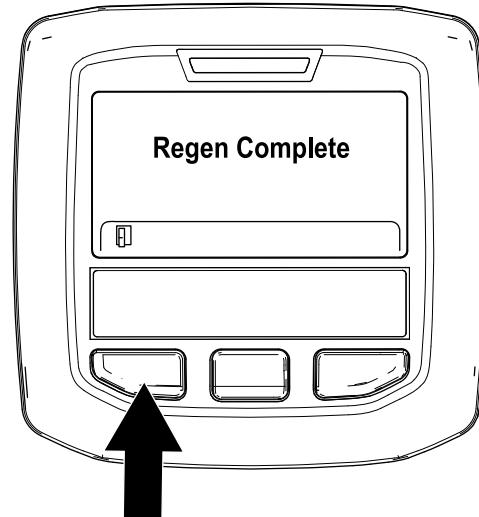

Figure 38
- The parked regeneration is complete when the “Regen Complete” message displays in the InfoCenter. Press the left button to exit to the home screen (Figure 38).